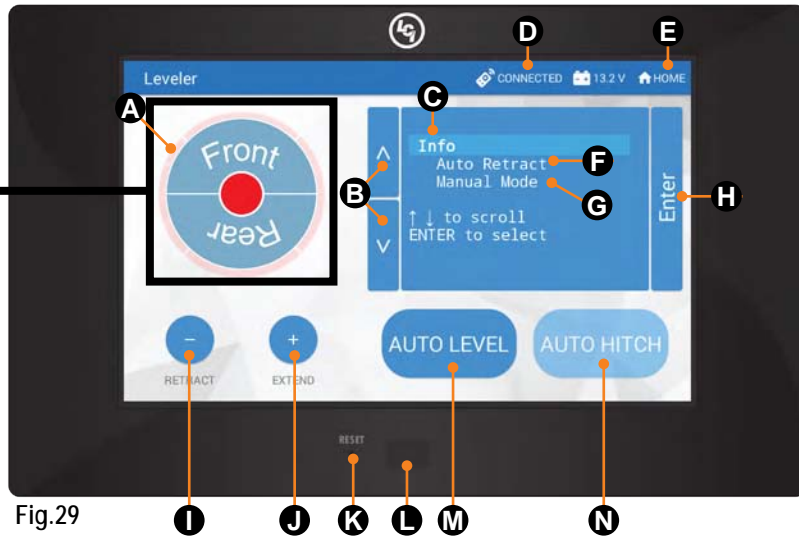
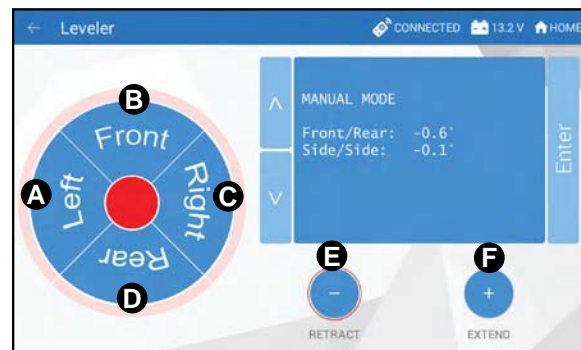

Fig.29
Fig.32
jack buttons in manual mode See Fig.32
A	Jack Buttons - Select Front, Rear, Right and Left jacks to be operated depending on mode. Jacks available to be operated will be highlighted in blue. Only the Power Tongue Jack can be operated in Standard Mode (Fig.29). In Manual Mode (Fig.32), all leveling jacks are available to be operated (no Power Tongue Jack operation available).
To reach Standard Mode (Fig.29) for leveling:
4. The screen will show the system menu (Fig.29) for Standard Mode. The Power Tongue Jack can be extended/retracted in Standard Mode. Front and rear jacks cannot be operated in standard mode.
To reach Manual Mode (Fig.32) for leveling:
1. While in Standard Mode (Fig.29), use the arrows (Fig.29B) to scroll to Manual Mode (Fig.29G). Hit "ENTER" (Fig.29H).